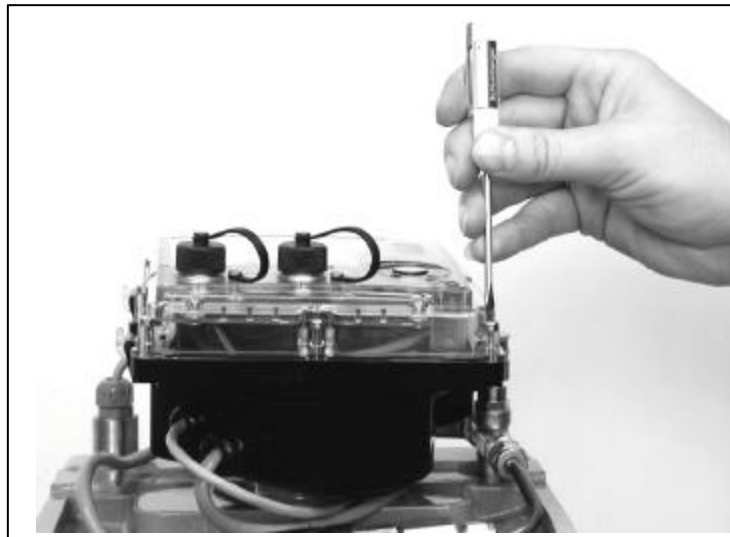

Figure 7.16 Opening the Index Housing
4. Open the index housing by loosening and removing its nine (9) slotted screws (see Figure 7.16).